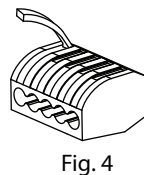
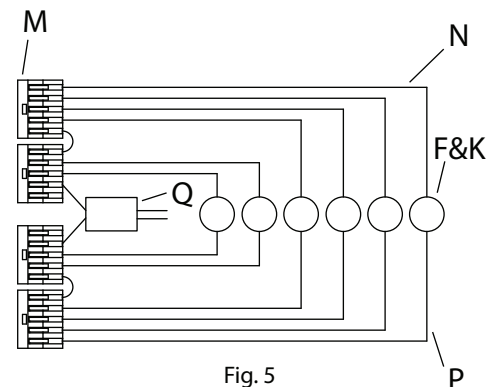

Fig. 4
Fig. 5
6. Connect the fixture wires to the lever nuts (M) by pulling up on the lever for an empty slot (Fig. 4), inserting the wire, and pushing the lever back down to lock. The white inner conductor (N) and black outer conductor (P) on each cord (F&K) must be connected to separate lever nuts, as shown (Fig. 5).
7. Reserve transformer (Q), extra cords (F&K), and lever nuts (M) in canopy (J).
- a. Connect the transformer's (Q) live wire (black) to the live outlet box wire.
- b. Connect the transformer's (Q) neutral wire (white) to the neutral outlet box wire.
- d. Carefully place connections in outlet box (A).
9. Attach mounting plate (R) to the outlet box (A), secure with outlet box screws (S).
10. Attach canopy (J) to nipple (T), secure with finial (U).
11. Adjust spreader (B) to desired height and level.